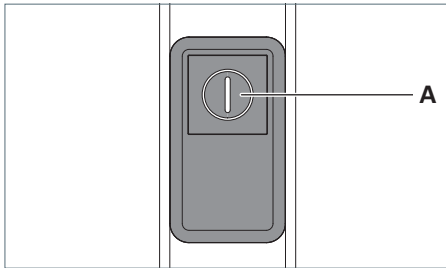

Fig. 33: Control element.
- ▶ Press the key **A** seven times quickly in succession, see Fig. 33.
- ▶ Press the key **A**, see Fig. 33.
- ▶ Press the key **A** and keep this key pressed, see Fig. 33.